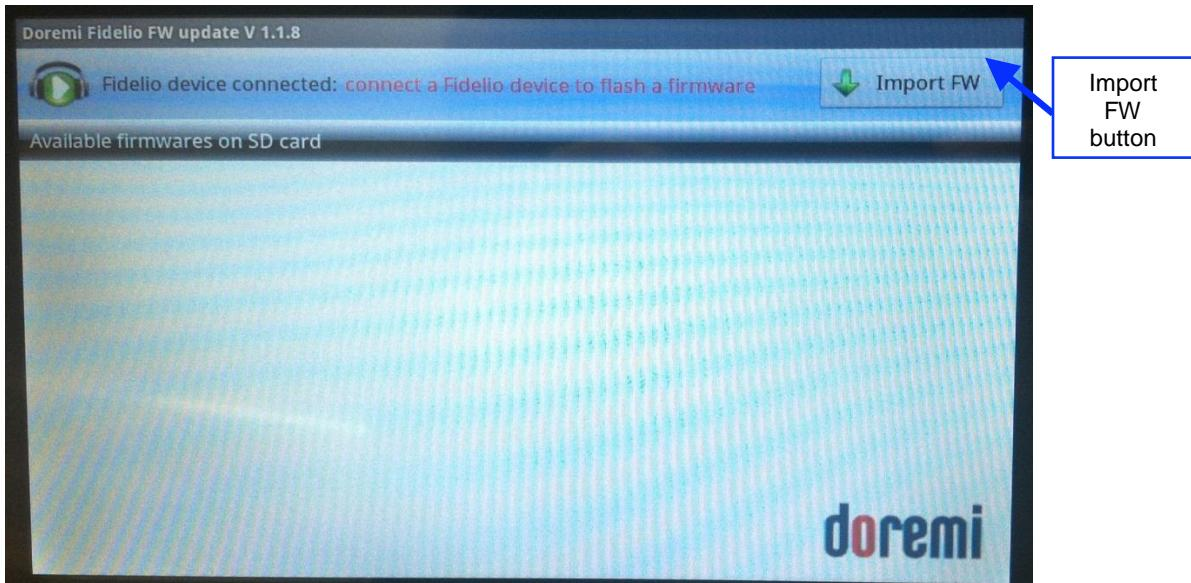

Figure 78: Packages Scanned
- Go to the Fidelio FW Update app on the Tablet's home page. It will scan all available firmware packages on the USB drive (Figure 78).